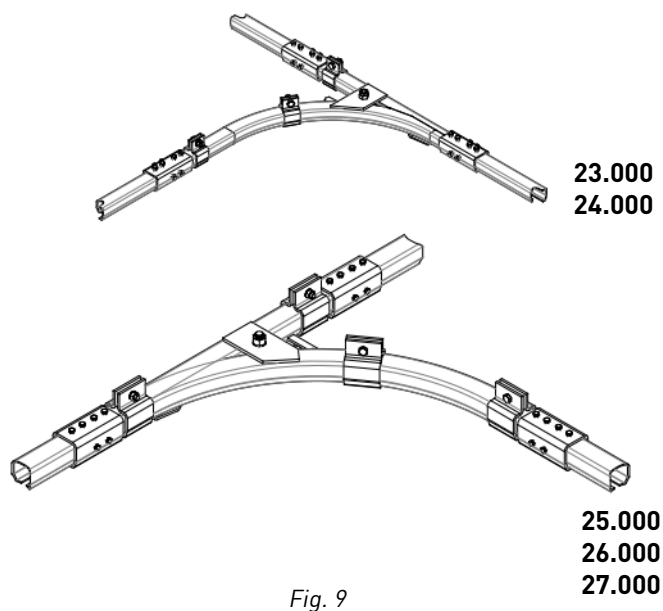

Fig. 9
- The initial stage of a switch installation requires three support brackets for series 23.000 to 24.000 and four support brackets for series 25.000 to 27.000, as illustrated in fig. 9. These support brackets must not be omitted in any case.